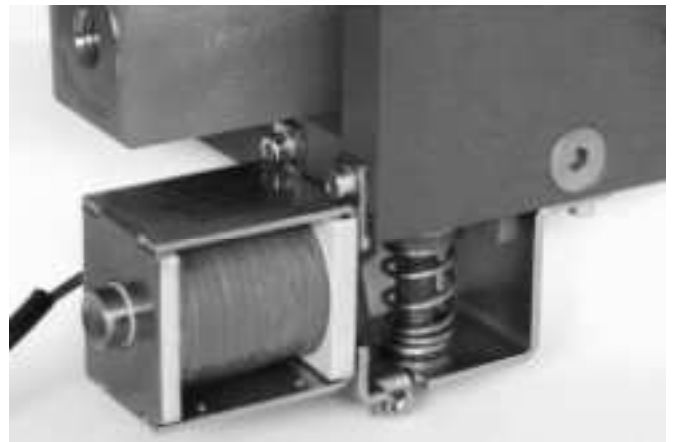

Fig. 9 Zero voltage release
- The UVR [Fig. 9] is used for remote actuation and, in combination with an internal electronic control, for voltage control.